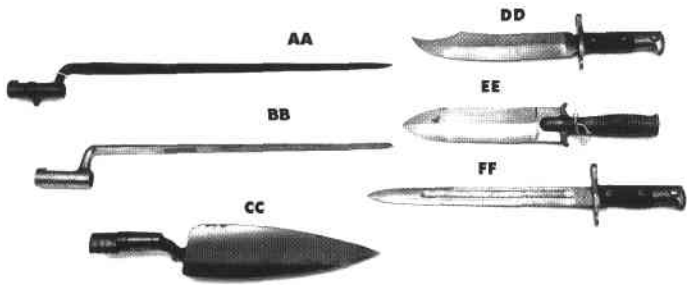

Figure 1. Dual-purpose bayonets: AA. Model 1873; BB. Model 1819 Hall; CC. Model 1873; DD. Model 1898; EE. Model 1880; FF. Model 1892
With costs, utility, and weight in mind, governments attempted to make dual-use implements out of bayonets by shaping them as entrenching shovels, saws, spikes, swords, bolos, and bowie knives, often with unintended consequences (Figures 1 and 2). For example, an entrenching tool (CC) was not a good bayonet for either penetration or withdrawal, and if left fixed in place while shoveling would likely bend the barrel of the musket or rifle.
horse made a conventional socket bayonet (Figure 1.BB) and scabbard, such as the one employed on Hall's Model 1819 flintlock rifle, more of an impediment than a valuable instrument. The rod bayonet solved that problem but tended to raise the bullet's point of impact and introduced other concerns.
The resurrection of the triangular rod bayonet on a Model 1880 Trapdoor Rifle employed an improved locking and retaining device for the bayonet at the muzzle in its trial form, in which form only 1,014 of the third of “the seven deadly pins” were produced (Figures 7 and 8). The motivation for this resurrection was that the supply of surplus Civil War socket bayonets was running low, and starting up a new production line would be very expensive considering the relatively limited number of bayonets in demand. Bayonets from the Civil War, often referred to as the U.S. Model 1855-1870, had sockets designed to fit around a .58 caliber barrel. However, a cold press or swedging process developed by Pratt & Whitney (now of jet engine fame) had been very satisfactorily employed to reduce those sockets, at low cost, to fit around a .45 caliber barrel (Figure 1.AA). Thus the U.S. government, penurious as ever with the military in times of relative peace, saw future savings in the resurrection of the rod bayonet rather than the commencement of new socket bayonet production. The Springfield Mod. 1880 knife is closely associated with this rifle (Figure 1.EE).
The U.S. Army adopted the Krag, a Norwegian-designed Danish military rifle with a knife bayonet (Figure 1.DD & FF) in 1892 and commenced production in October 1894, but it did not forget its fascination with the rod bayonet. After October 1894, the Krag reigned supreme among Regular Army units and some others until around 1905 or 1906. However, in 1901 and 1902, having learned in Cuba that the Krag was outclassed by the German Mauser in Spanish hands, the U.S. Army started work on a Mauser-type bolt-action rifle. Some of the prototypes and the eventually adopted U.S. Model 1903 Springfield returned to the rod . . . the seventh deadly pin (Figures 15 and 16).